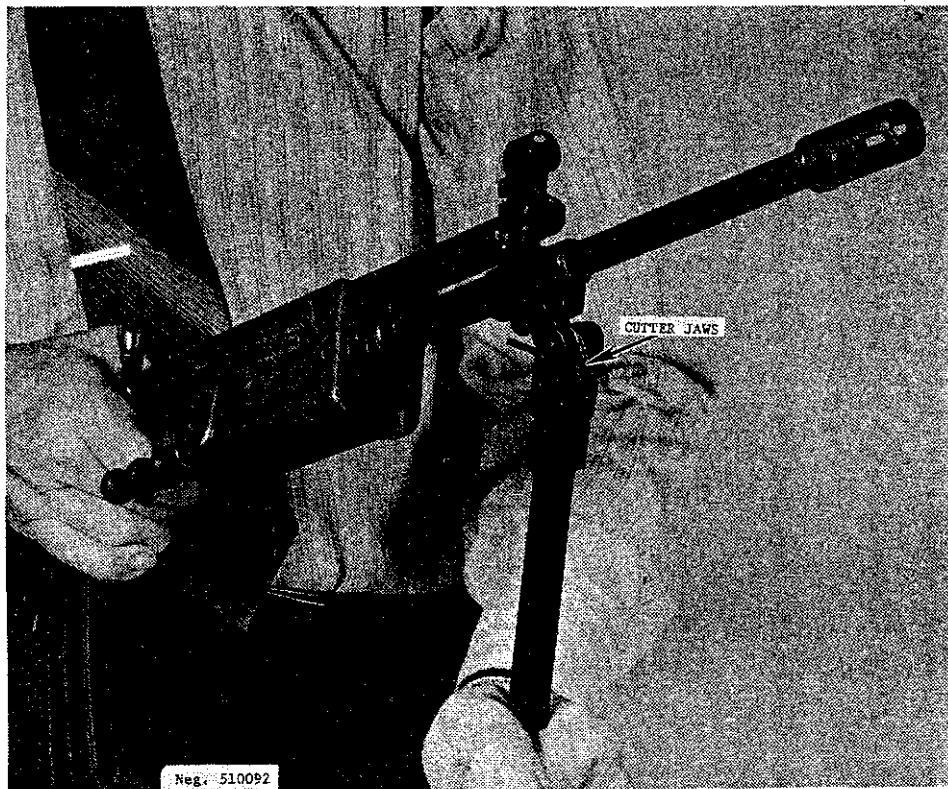

Figure 93. Using the Galil to cut wire.
b. The bipod is opened by squeezing its feet together to disengage them from the bottle opener at the lower rear end of the forearm and then swinging the bipod to a right angle to the barrel. When the legs are released, they will now spring apart for use. Fold the bipod by squeezing the legs together, swinging them rearward, and engaging them with the bottle opener. The bipod can be used to cut wire by swinging the bipod forward after the wire is placed in the cutting jaw (fig 93).